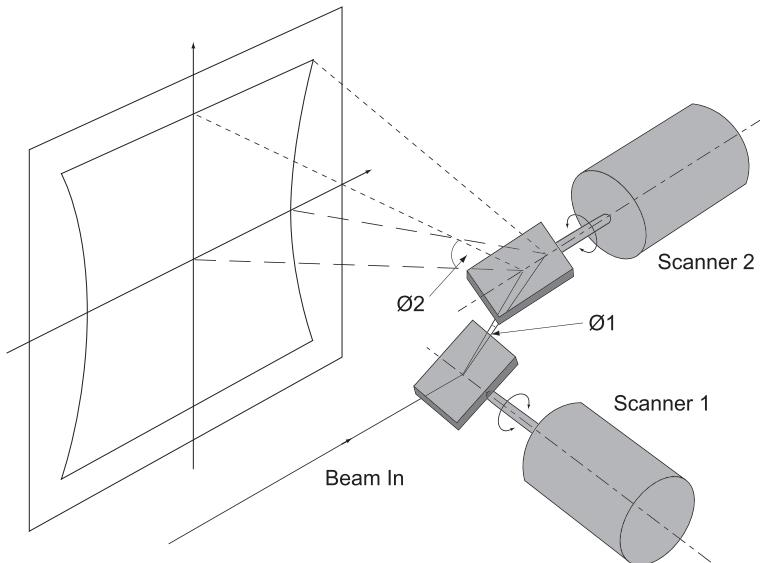

Fig. D.1 Field Distortion in a Two-way Mirror Deflection System
- (1) The arrangement of the mirrors leads to a certain distortion of the image field – see Fig. D.1 below.